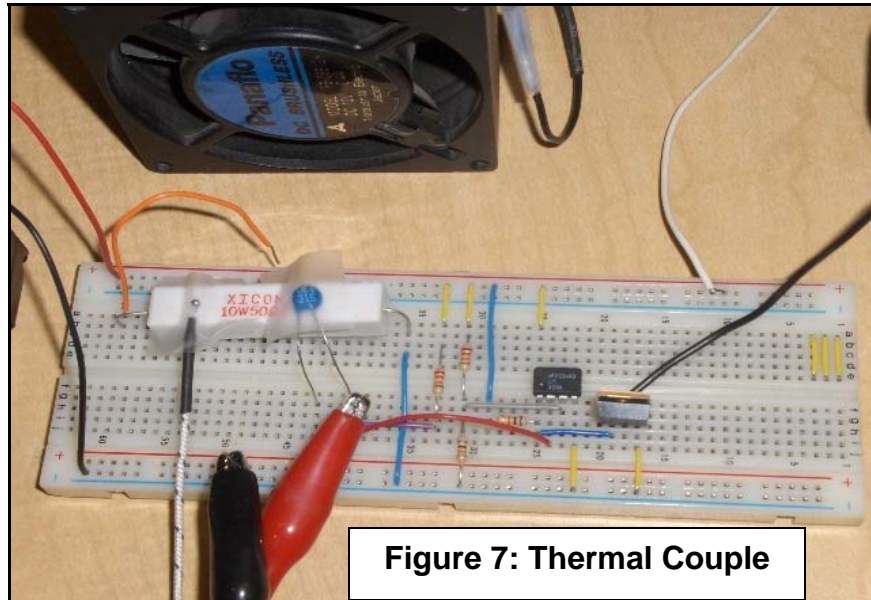

Figure 7: Thermal Couple
2. Attach the thermal couple of the digital thermometer to the 50 Ω heater, as shown in figure 7 below.